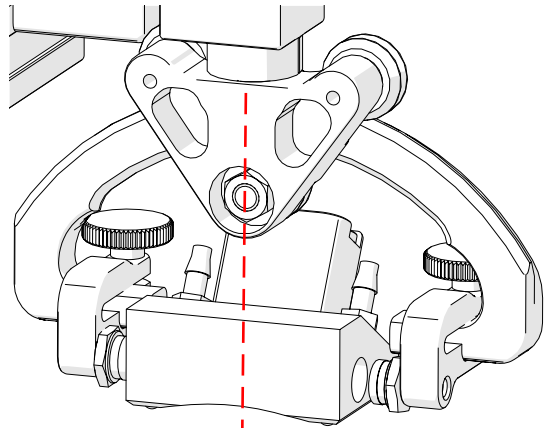

Fig. 229 - Align probe
5. Align the probe to be used with the centre of yoke pivot (Fig. 229).